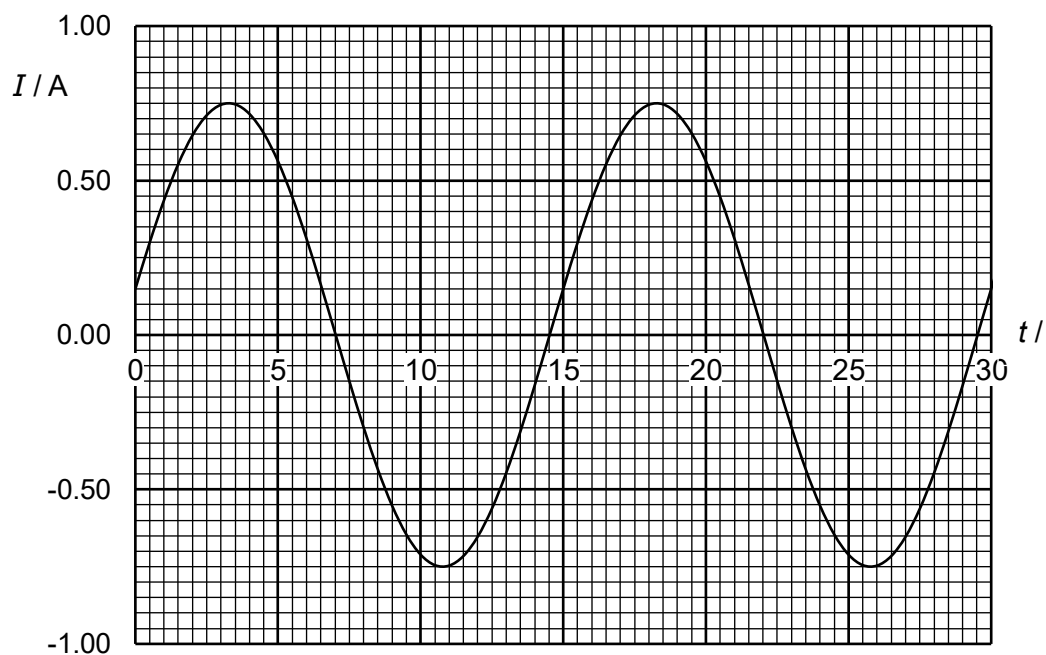

Fig. 6.2
The variation with time t of the current I in the solenoid by the a.c. supply is shown in Fig. 6.2.
- (ii) Use Fig. 6.2 to determine the maximum e.m.f. induced in coil C.